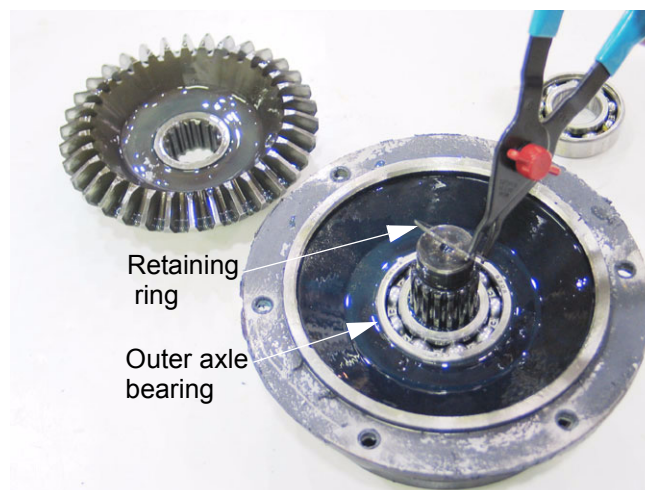

Figure 6.6
- 6.6. Lift the gear off of the splined portion of the flange axle to gain access to the retaining ring that secures the flange axle and the outer axle bearing to the axle cover. See Figure 6.6.